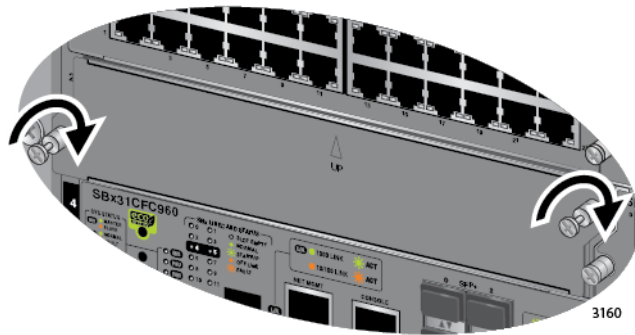

Figure 81. Tightening the Thumbscrews on a Blank Slot Cover
2. Finger tighten the two thumbscrews to attach the blank panel to the chassis, as shown in Figure 81 on page 139.